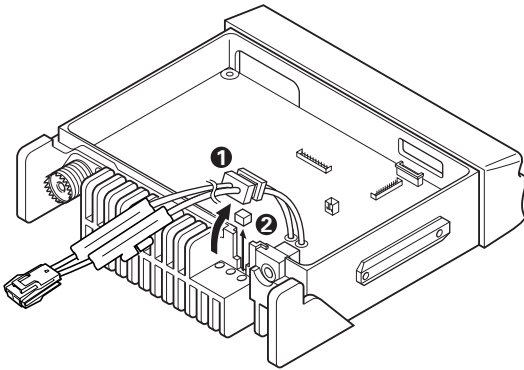

Fig. 3 / 图3
1. Lift the DC cord bushing (❶) from the chassis. Peel the pad as shown in Figure 3 (❷).
1. 从底座提起直流电源线套管 (❶)。如图3所示揭去软垫 (❷)。